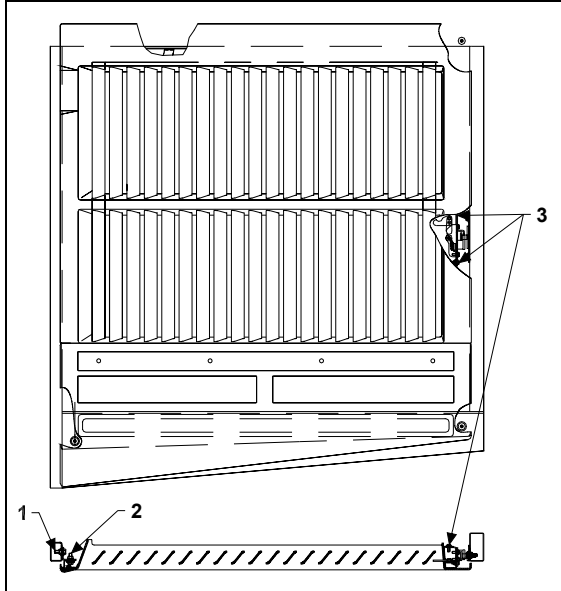

FIGURE 55: RADIATOR DOOR
1. Loosen the nuts (1, Fig. 55) holding the hinge to the vehicle structure to shift the door "IN or OUT" and "UP or DOWN".
2. Loosening nuts (2, Fig. 55) allows the door to be shifted "LEFT or RIGHT" and "UP or DOWN".